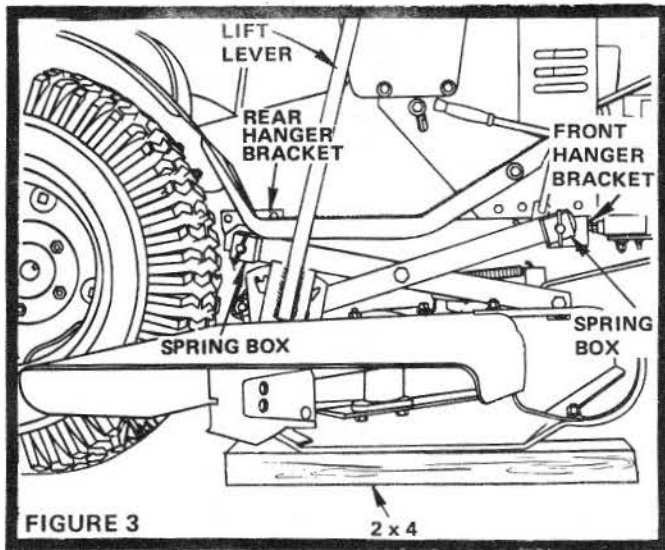

FIGURE 3
8. For ease in attaching mower to tractor, place a two foot long 2 x 4 (or similar object) flat wise under each end of mower (Fig. 3).